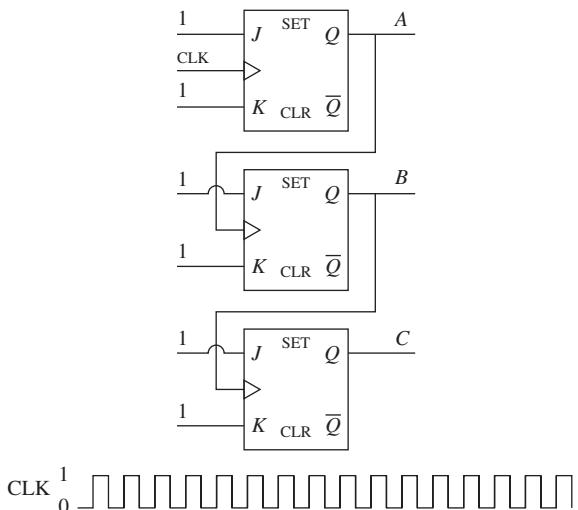

FIGURE P10.65 Frequency divider and clock wave.
- 10.65** (H) A frequency divider and the input clock are shown in Figure P10.65, and its initial outputs are all zeros. Draw the output waveform of A , B , and C .